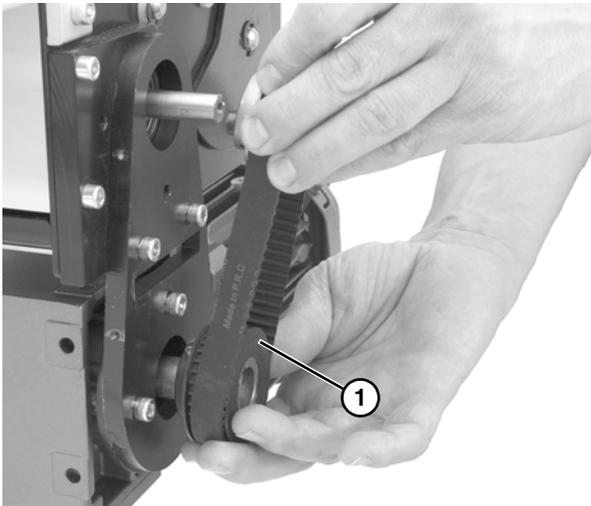

Figure 22
If drive pulley (**Figure 22, item 1**) is replaced, wrap timing belt around drive pulley and complete step 3.